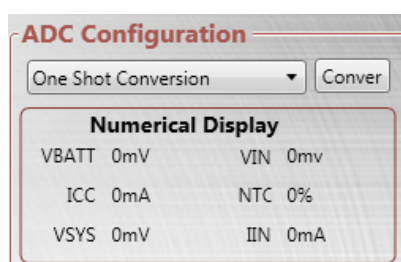

Figure 27: ADC Configuration
- ADC configuration (see Figure 27)